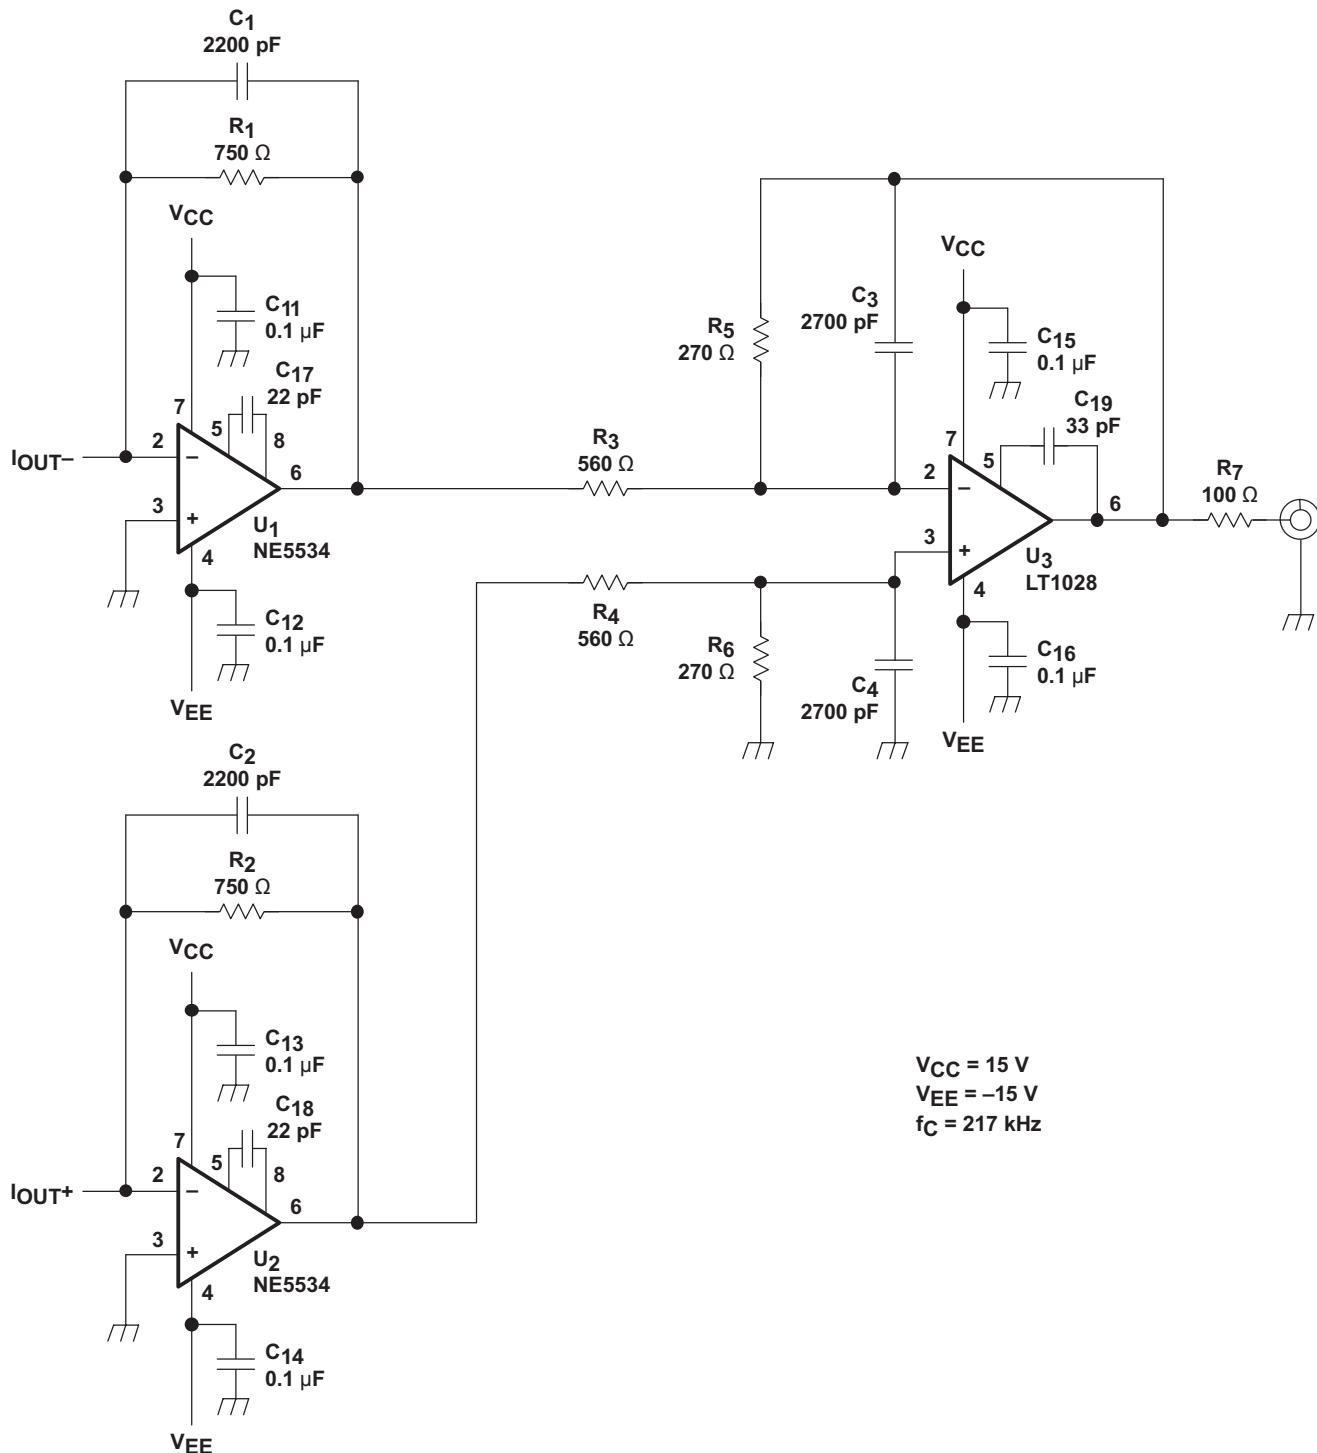
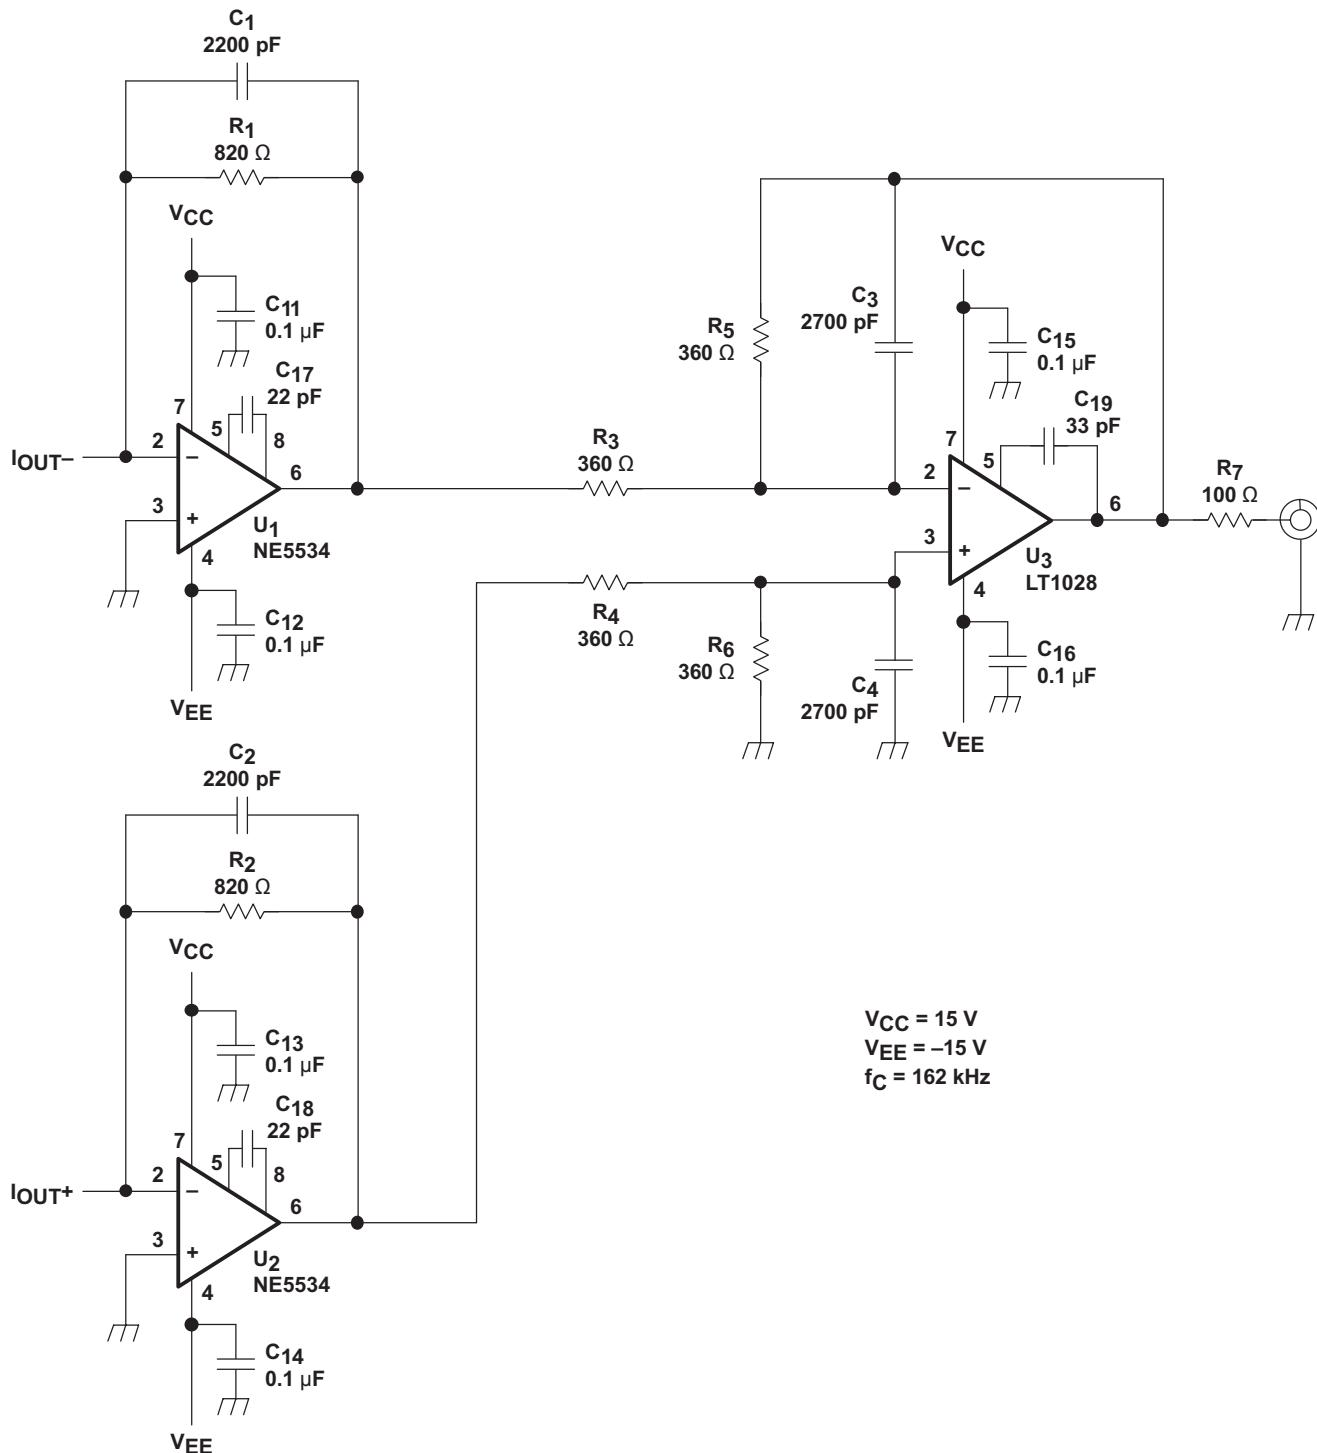
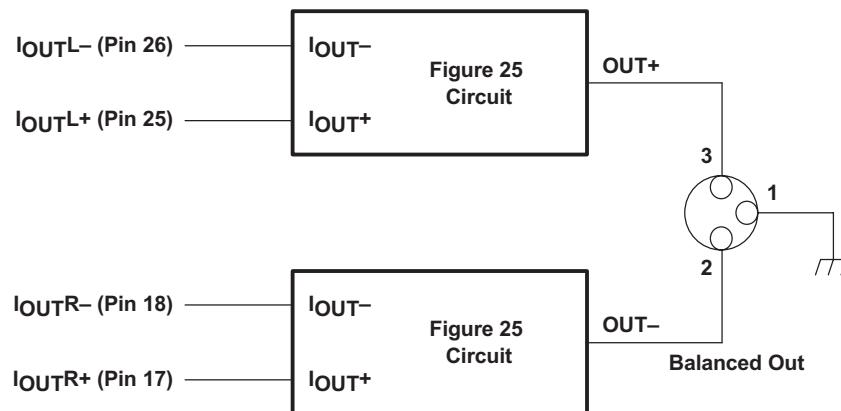

Figure 25. Measurement Circuit, $V_{OUT} = 2 \cdot V_{RMS}$
Figure 26. Measurement Circuit, $V_{OUT} = 4.5\text{-}V_{RMS}$
Figure 27. Measurement Circuit for Monaural Mode
(1) V_{OUTN} is the output of U1, V_{OUTP} is the output of U2, and V_{OUT} is the output of U3 in the measurement circuit of Figure 25.
With the use of the MONO pin, the PCM1794A can output either differential stereo audio, or differential mono audio. Figure 25 shows an example of stereo output. Figure 27 shows an example of mono mode.
In the circuit of Figure 25, the output level is 2-V_{RMS} , and 127-dB S/N is achieved. The circuit of Figure 26 should result in the highest performance. In this case the output level is set to $4.5\text{-V}_{\text{RMS}}$, and 129-dB S/N is achieved (stereo mode). In monaural mode, if the output of the L-channel and R-channel is used as a balanced output, 132-dB S/N is achieved (see Figure 27).
In this application, a PCM audio source is supplied to the device. A current output is produced and then converted to a voltage output in the I/V stage. The next stage in the output is a differential to single-ended amplifier stage with a low pass filter to reduce out of band noise. The f_c of the example circuits (Figure 26 and Figure 27) are shown in the example figures. Use Equation 2 to calculate the value of f_c .